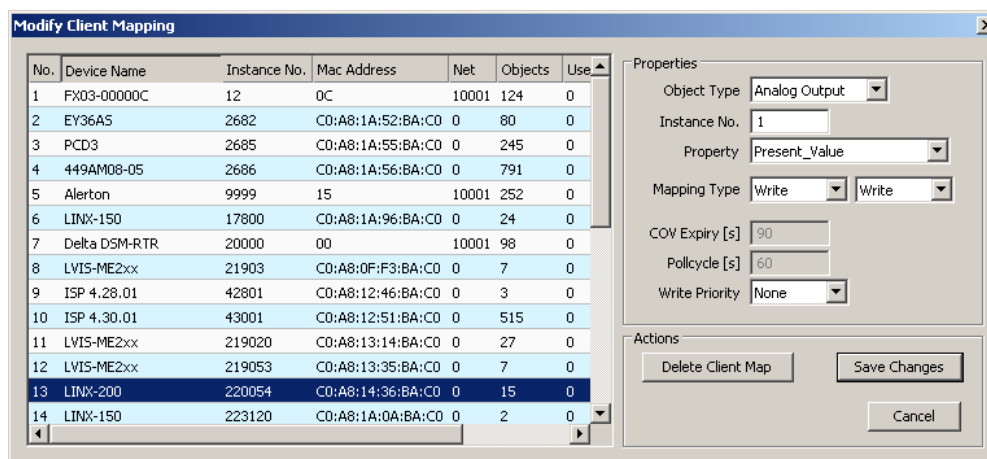

Figure 152: Modify Client Mapping Dialog.
- This opens the **Modify Client Mapping** dialog as shown in Figure 152.